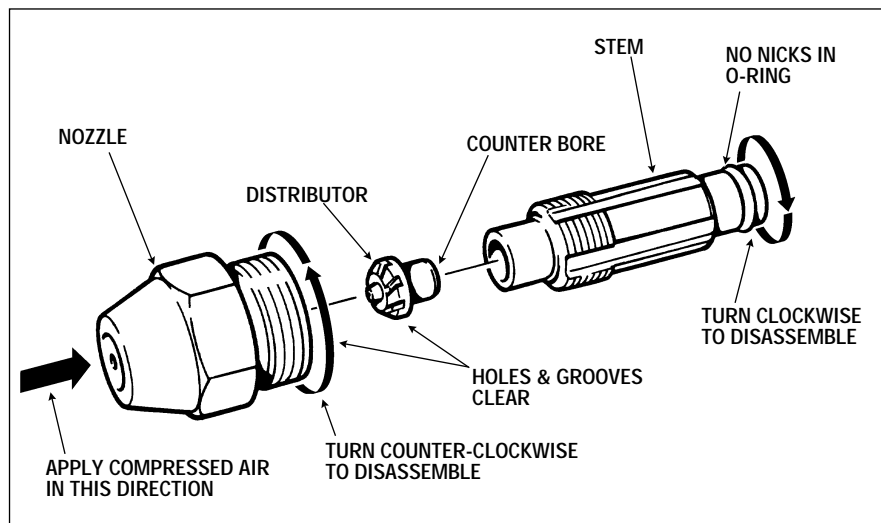

Figure 5-15 Fuel Nozzle Detail
- Disassemble nozzle as shown in figure 5-15.
- Using compressed air for cleaning should only be applied in the direction indicated. See figure 5-15.